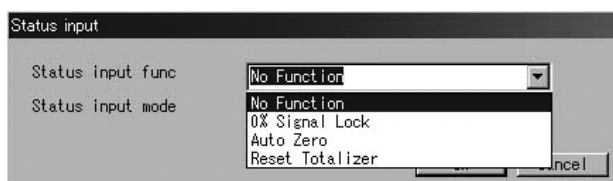

Fig.35
- ③ By clicking on the arrow mark at right, select the function to be set up from the drop-down list as shown in Fig. 35.